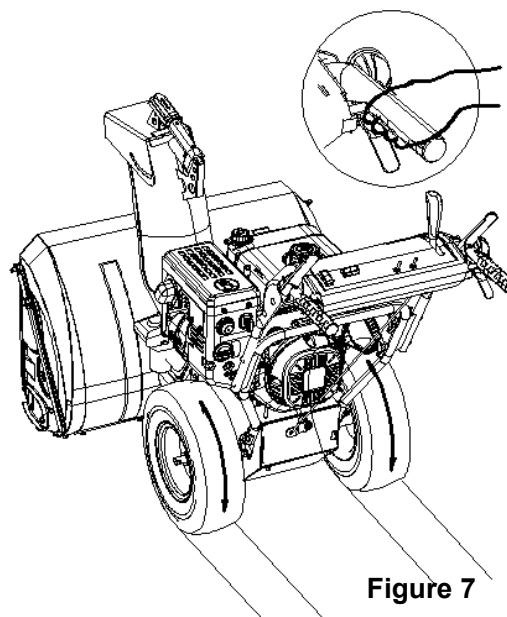

Figure 7
- 1) Place the chute on the chute seat, fix it with three bolts and nuts attached (Fig. 7).
Engaging the Differential lever releases the right traction wheel, but allows the left wheel to continue driving. Releasing the Differential lever automatically engages both drive wheels for full traction (See Figure 7).